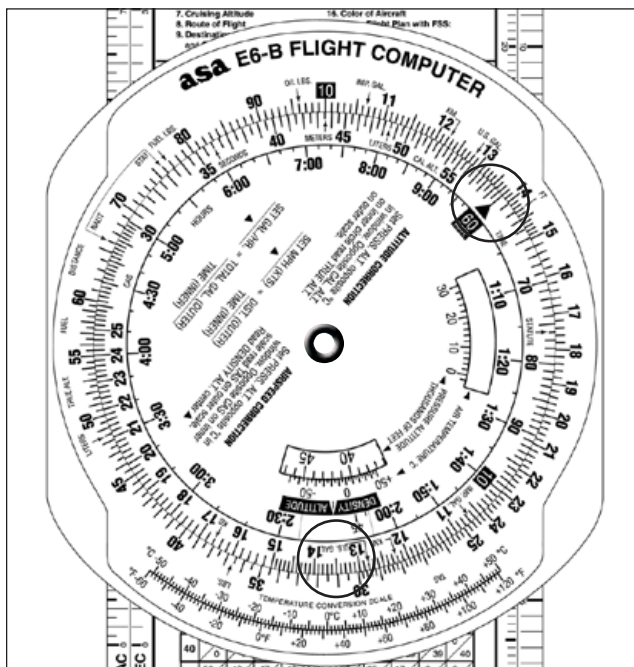

Figure 9-11. Computing distance on the E6-B
2. Over the time of 135 minutes or 2 hours +15 minutes (inner scale), read 310 NM (on the outer scale). See Figure 9-11.